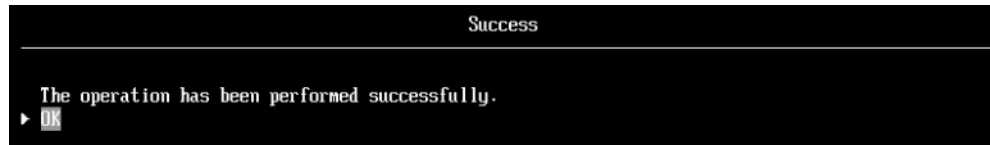

Figure 5-32 Successful RAID array creation
13. Select **Confirm** to mark an **X** in the box and then select **Yes**. After you confirm the array that you created, you see a Success message, as shown in Figure 5-32.